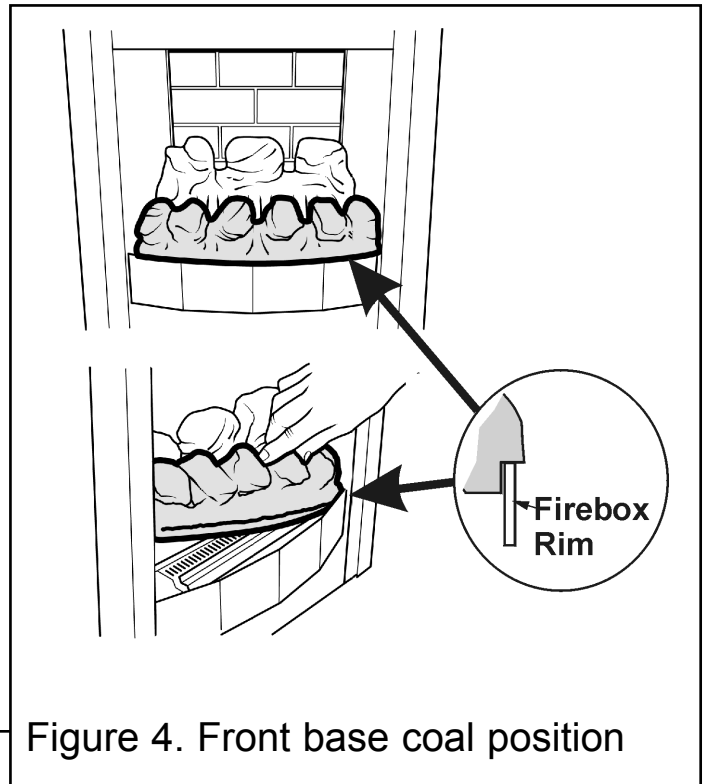

Figure 4. Front base coal position
2. Place the front base coal in the firebox with its bottom front locating over the front rim of the firebox. Pull the coal forward so that it locates immediately behind the front rim of the firebox. See figure 4.